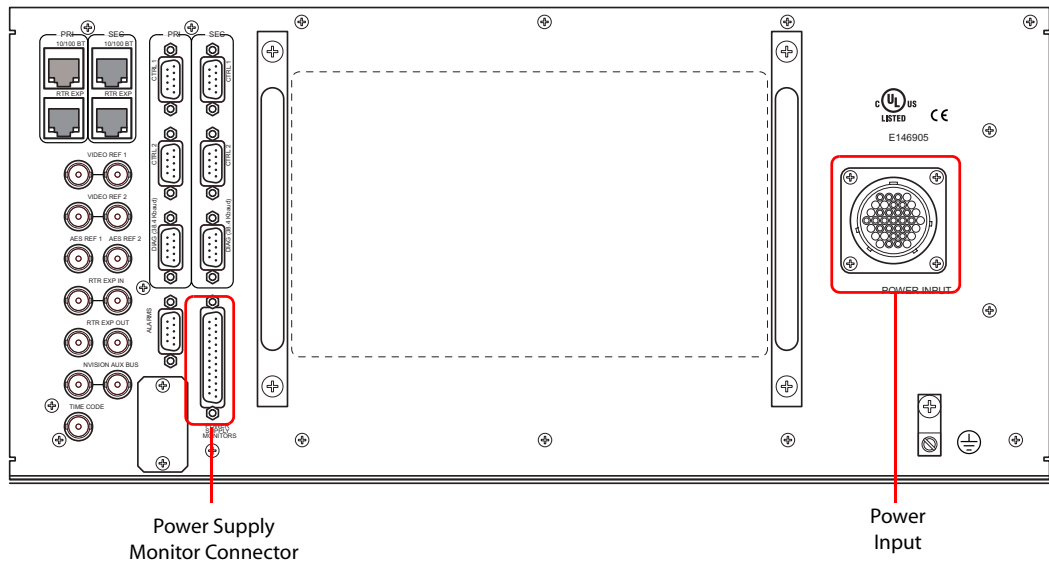
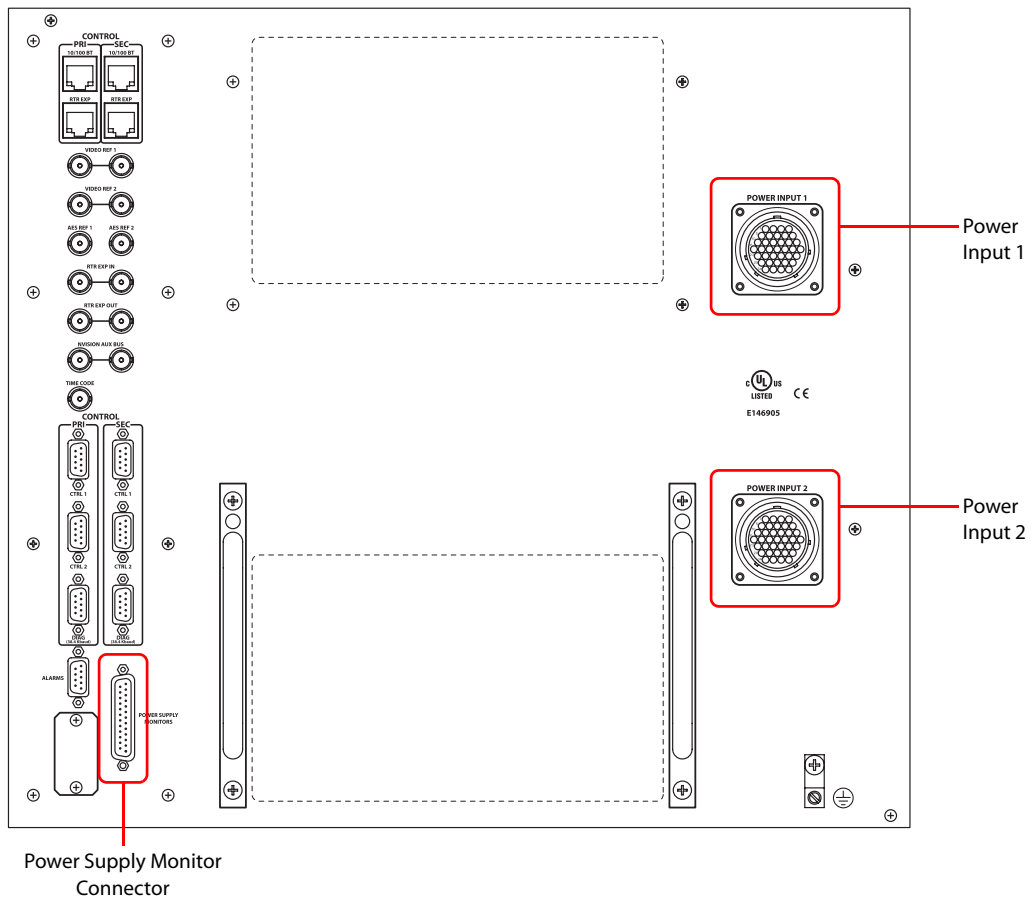

Figure 2-34. NV8280 Power Supply Monitor and Power Supply Connections on Router
Figure 2-35. NV8576 Power Supply Monitor and Power Supply Connections on Router
- 3 Facing the rear of the **router**, connect the other end of the power cable to 'Power Input 1', as shown in Figure 2-34 for NV8280/NV8280-Plus or Figure 2-35 on page 90 for NV8576/
- Connect power cords from AC power sources (90–230 VAC, 50–60 Hz) into power supply connections PS 1 through PS 4. (See Figure 2-35.) Connect one power cord for each PS8100 power supply module you will install.